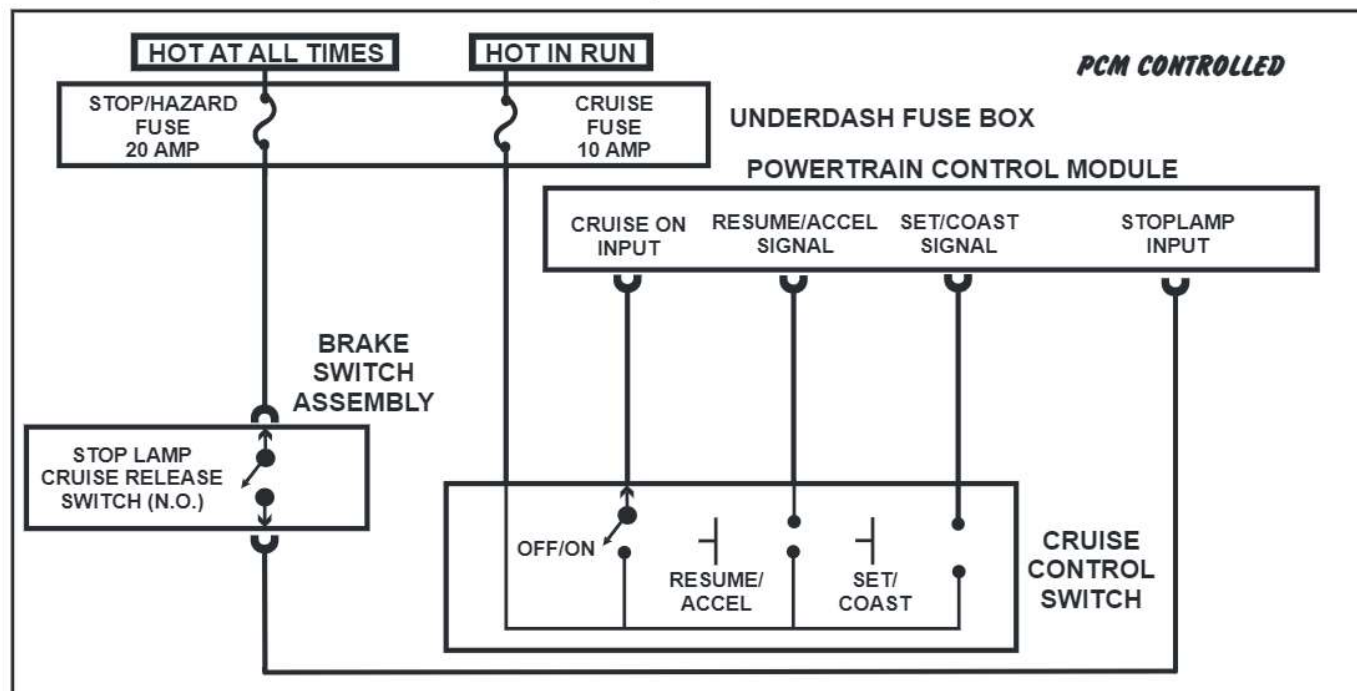

Figure 156
- On systems that are PCM controlled, check the "Cruise ON/OFF" circuit, (Refer to Figure 156).